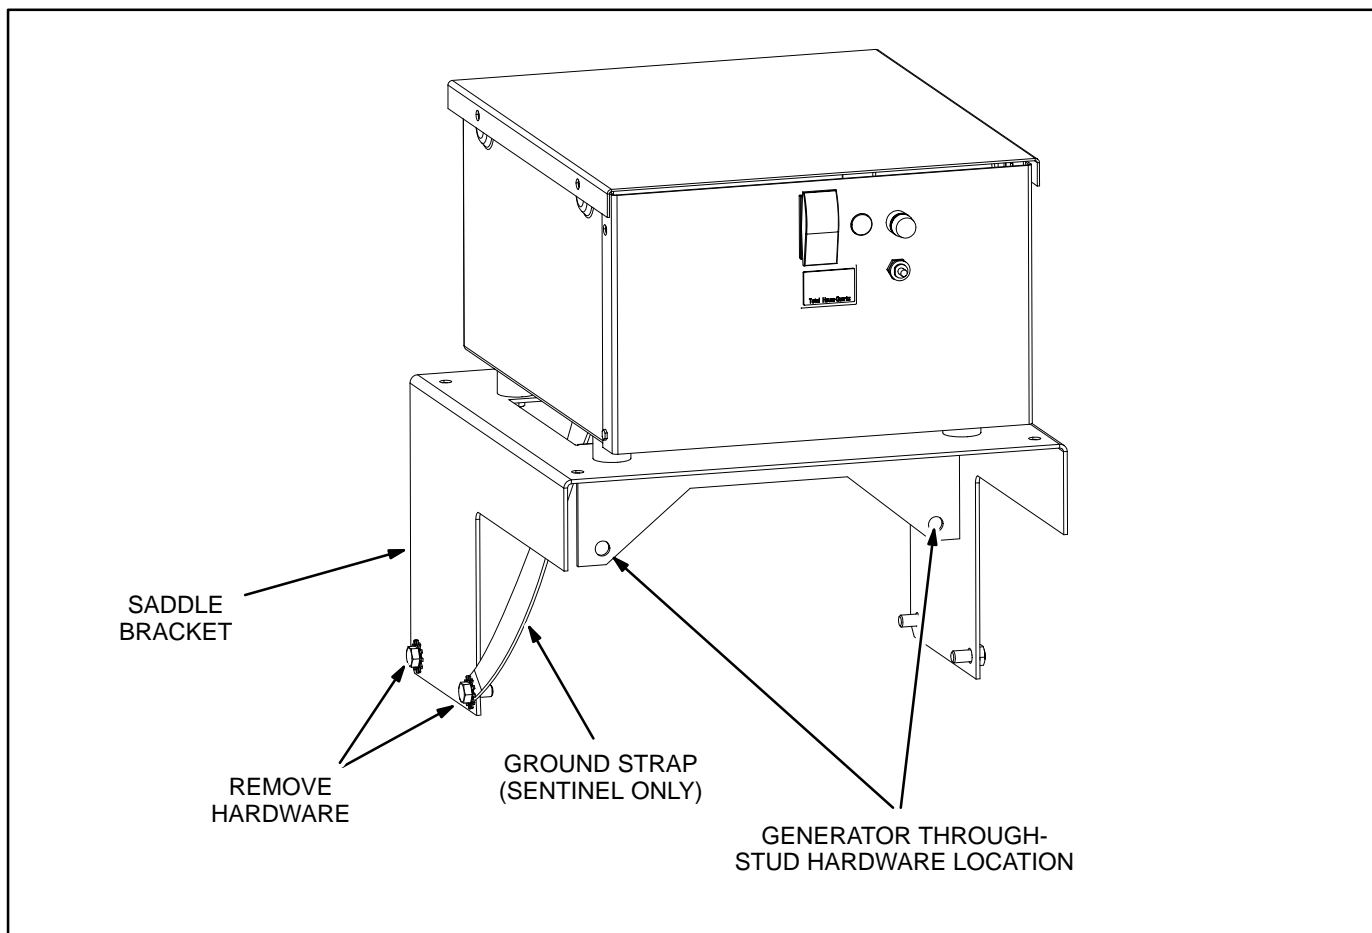

FIGURE 7-6. CONTROL BOX MOUNTING BRACKETS/HARDWARE
4. Remove the four bolts that secure the two saddle brackets of the control box to the generator (Figure 7-6).